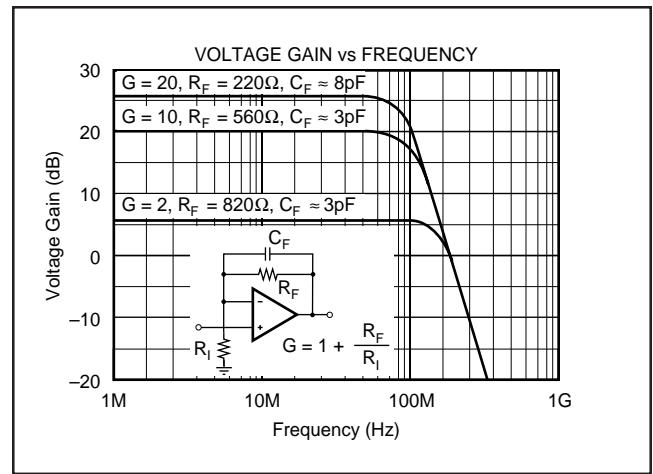

FIGURE 5. Bandwidth Results with Added Capacitor C_F .
NOTES: (1) One power supply fixed at 5V; the other supply varied from 4V to 6V. (2) Observe power derating curve. (3) See bandwidth versus gain curves, Figure 5.
C_F will range from 1pF to 10pF depending on the selected gain, load, and circuit layout. Adjust C_F to optimize bandwidth and minimize peaking. Figure 5 shows bandwidth which can be achieved using this technique.